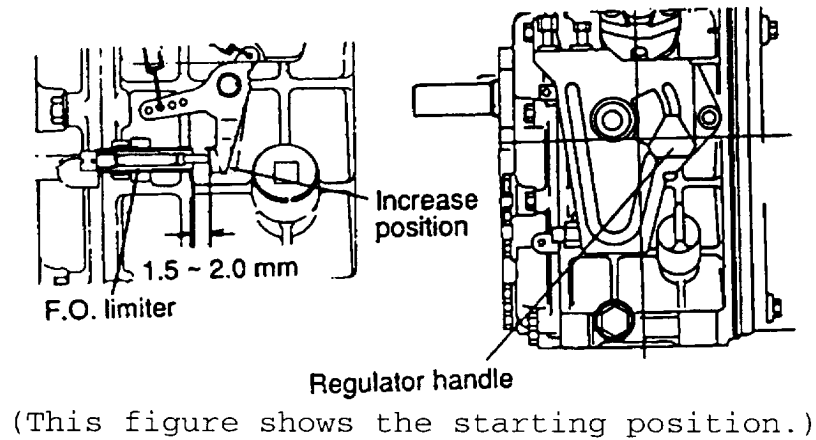

Figure 6-81 Starting (2)
- (2) Set the regulator handle to the "START" position, and tighten the knob (see Figure 6-81). (The FO limiter must be in the "increase" position. Otherwise, the engine may not start.)